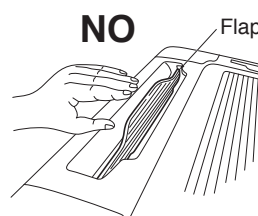

Fig. 6-12
- Do not touch the flap or apply force to it. (This may cause flap malfunction.) (Fig. 6-12)